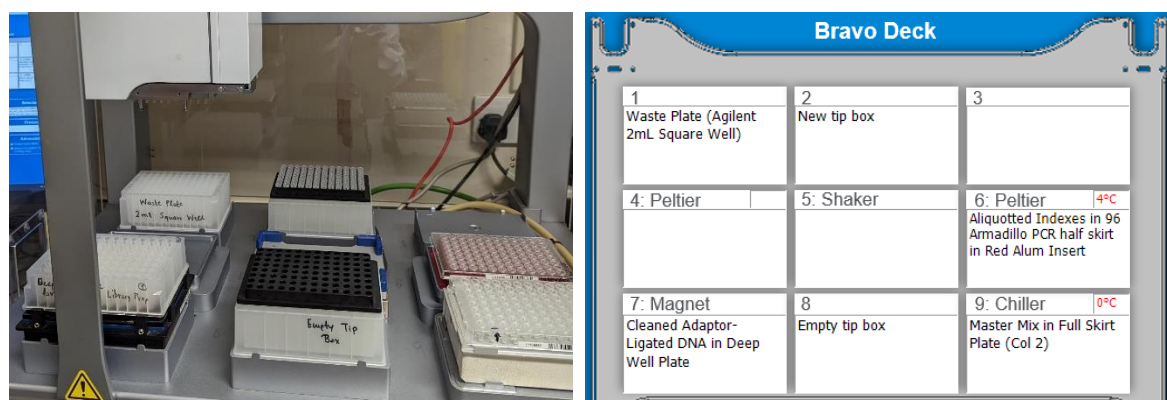

Figure 6. Example of the Bravo deck preparation and computer screen for 03 Pre-CapPCR_XT_HS2_ILM.
- Verify that the Bravo deck has been set up as displayed on the right side of the form, as on **Figure 6**.